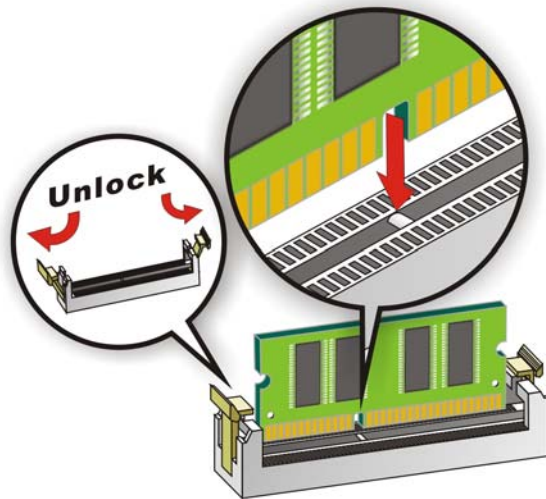

Figure 4-7: SO-DIMM Installation
To install a SO-DIMM, please follow the steps below and refer to **Figure 4-7**.
- Step 1: Open the SO-DIMM socket handles.** Open the two handles outwards as far as they can. See **Figure 4-7**.
- Step 2: Align the SO-DIMM with the socket.** Align the DIMM so the notch on the memory lines up with the notch on the memory socket. See **Figure 4-7**.
- Step 3: Insert the SO-DIMM.** Once aligned, press down until the SO-DIMM is properly seated. Clip the two handles into place. See **Figure 4-7**.